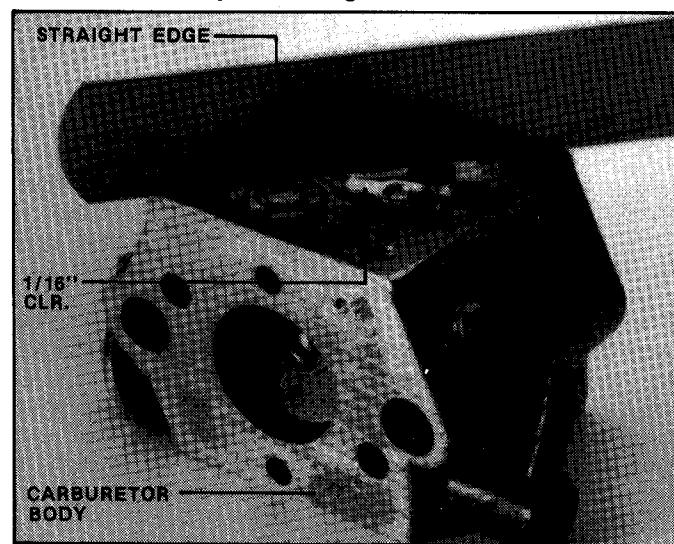

FIGURE 2.5
D. Note for re-assembly of the needle valve and lever group, the lever end should be adjusted to $1/16''$ below the level of the outside surface of the carburetor body. See Figure 2.5.